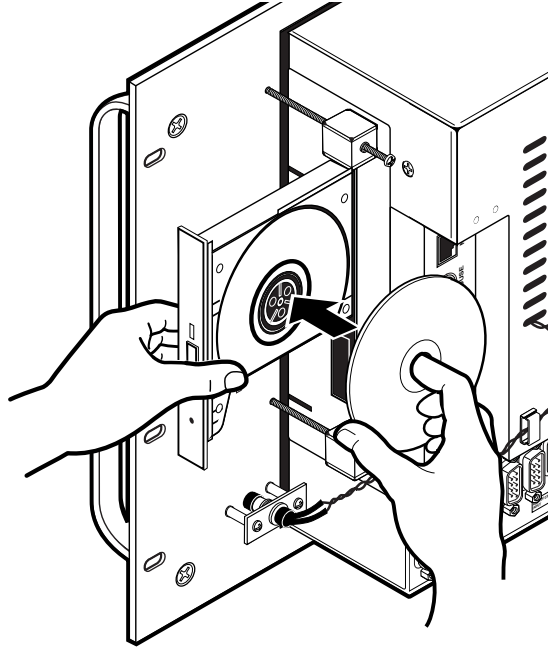

Figure 2-12 — Inserting the program CD into the CD tray
6. On the rear of the FPC, support the CD tray from behind with one hand while you snap the program CD onto the tray spindle with the unlabeled (program) side of the CD facing into the tray (figure 2-12).